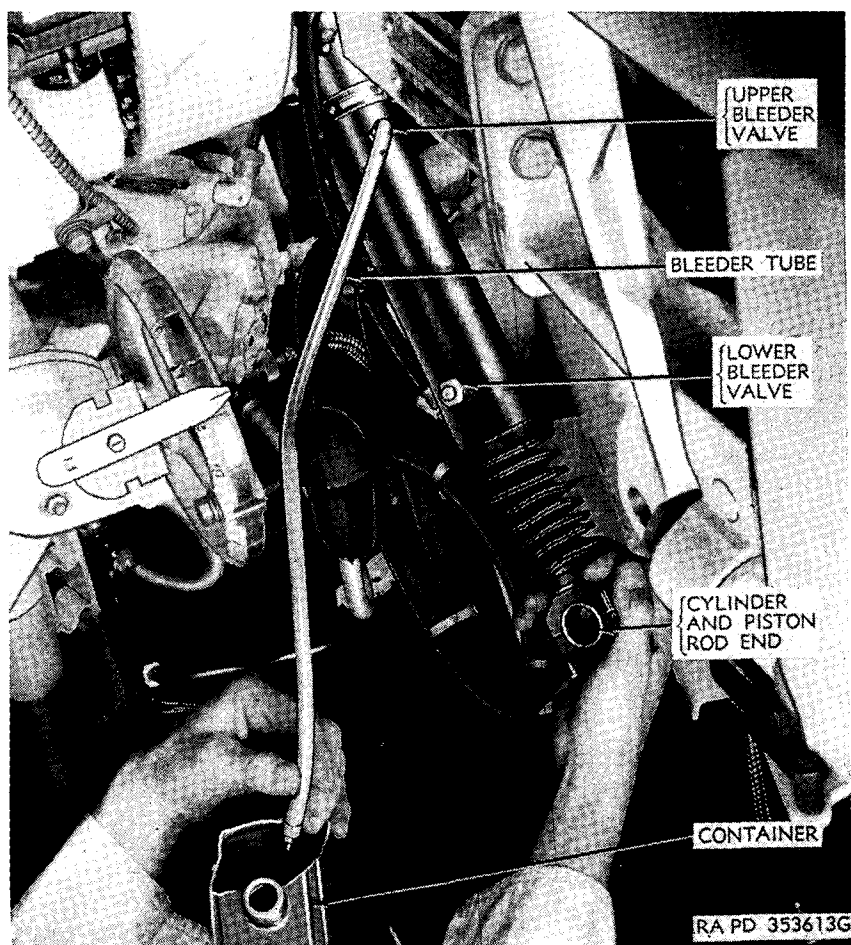

Figure 172. Bleeding the stabilizer cylinder.
e. With the gun positioned over the front of the tank, slowly push the breach end up, remove the small hex-head plug from the front bleeder valve (fig. 175), loosen the fitting, connect rubber hose to valve (fig. 172), and drain oil from the valve until a solid flow of oil is obtained. Tighten valve and install plug.